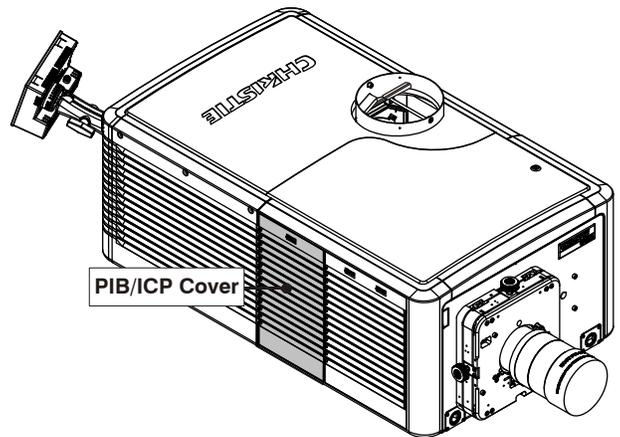

Figure 5-9 PIB/ICP Cover
1. Push down on the cover's center tab. **(Figure 5-9)**
1. Remove PIB/ICP Cover **(Figure 5-9)**.
1. Push down on the two snap tabs at the top of the cover (Refer to **Figure 5-9**).